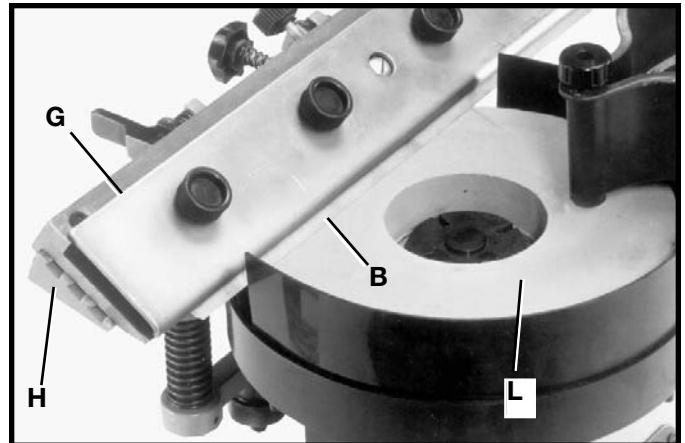
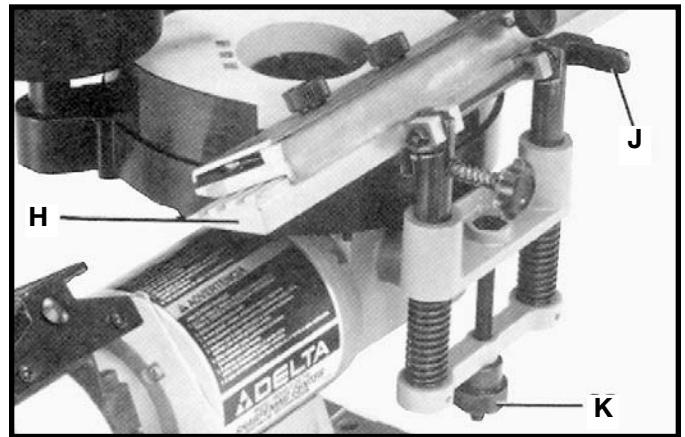
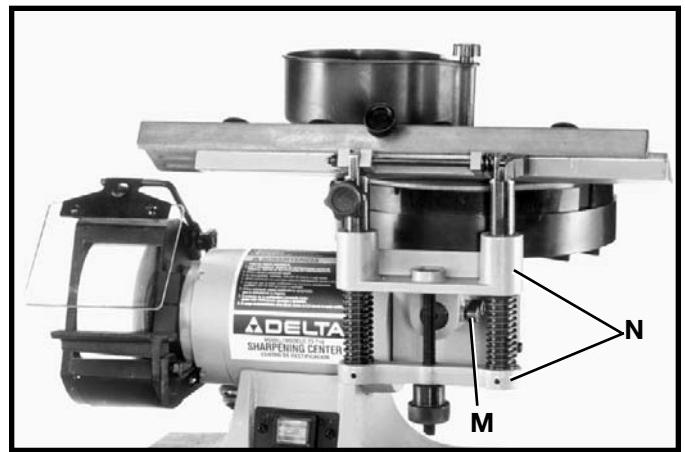

Fig. 53
Fig. 54
Fig. 55
3. Place sliding tool rest (G) Fig. 53, onto the tool rest base (H) as shown.
4. Adjust the height of tool rest base (H) Fig. 54, by moving locking lever (J) to the right and turning raising and lowering knob (K) until knife (B) Fig. 53, lightly touches grinding wheel (L). Then move locking lever (J) Fig. 54 to the left to lock in place.
6. If the knife (B) Fig. 53, is not parallel with the grinding wheel, loosen screw (M) Fig. 55, and rotate tool rest base (N) until knife is parallel with grinding wheel. Then tighten screw (M) Fig. 55.